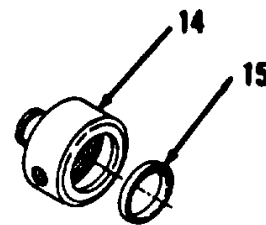

Figure 15-7.
10. Remove seal (15) from crown (14, Figure 15-7). Discard seal (15).
1. Install seal (15) into crown (14, Figure 15-7).